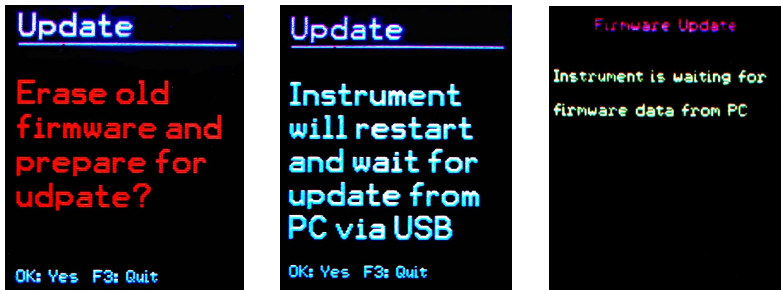

Figure 44: Firmware update
6. In the VM31 “Device Settings” select the option “Firmware update” and confirm the warning and subsequent hint messages by pressing OK. By carrying out this step the old firmware is deleted. The VM31 will then indicate that it awaits new firmware data from the USB interface (Figure 44).